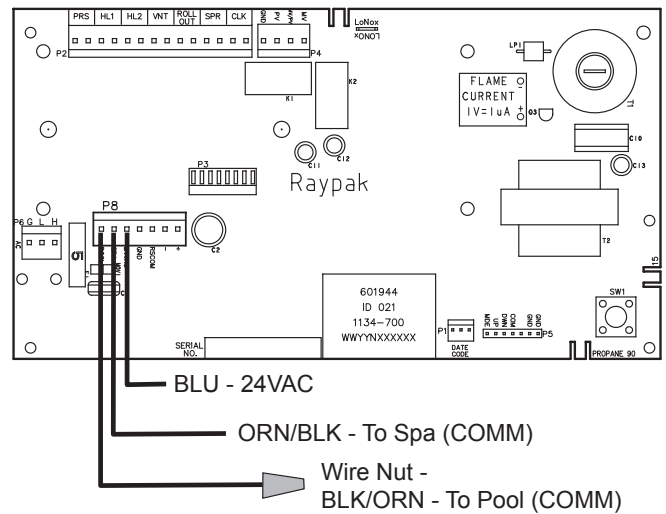

Figure 49. 2-Wire Remote Harness Installation on the P8 Connector of the Board
7. Install the "7-Pin Remote Interface Harness" to the P8 connector and turn power "ON" to the heater. See **Figure 49**.